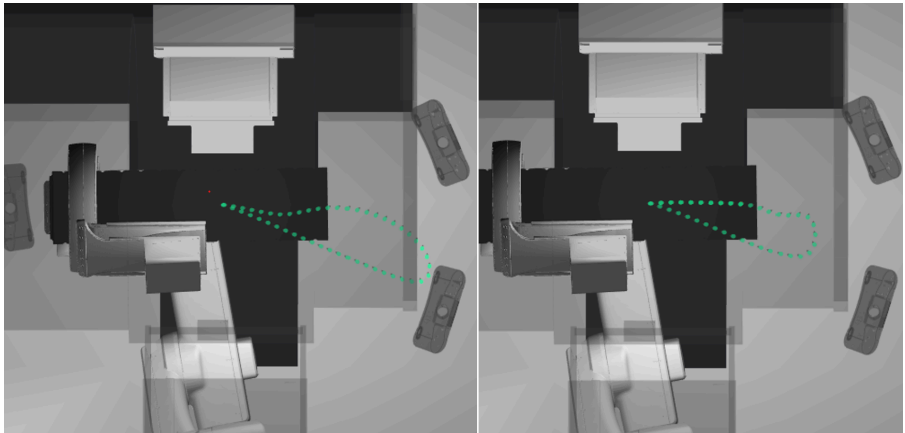

Figure 38. Given a fixed start and goal, non-deterministic planner can output different solution paths.
- **Non-deterministic planner** - Relies on probabilistic sampling to create a path in between the waypoints. This algorithm is more flexible than the deterministic planner and can plan more difficult maneuvers. However, due to its probabilistic nature, a fixed set of inputs can result in different outputs (Figure 38). Additionally, there is less control over plans created by this planner, and the planning process may take longer than for deterministic planner.